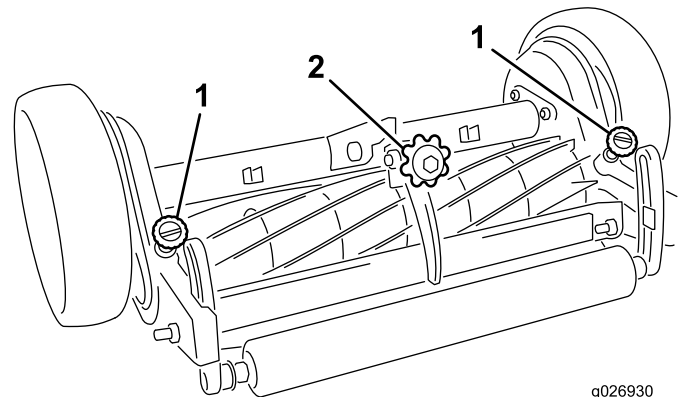

Figure 8
2. Disengage the reel throwout knobs (Figure 8). Carefully spin the reel backward to insure free movement
3. While spinning the reel backward, rotate the bedknife adjusting knob counterclockwise (Figure 8) until the bedknife does not touch the reel blades.
4. While spinning the reel backward, rotate the adjusting knob clockwise (Figure 8), one click at a time, until light contact of the bedknife and the reel is noticed or a whispering cutting sound is heard.
6. At the beginning of the cutting day, when the reels are cold, engage the reel throwout knobs (Figure 8). Operate the mowers for 15 to 20 minutes so the bedknife and reel reach normal operating temperature; then stop the operation. Next, disengage the reel throwout knobs and spin the reel backward. A whispering sound, not clicking, should be emitted, and this assures the correct adjustment. If a whispering sound is not heard, the bedknife and reel must be readjusted; refer to steps 3–5. By contrast, when the reels are warm from being used, use only steps 1–5 to maintain light contact between the bedknife and the reel.